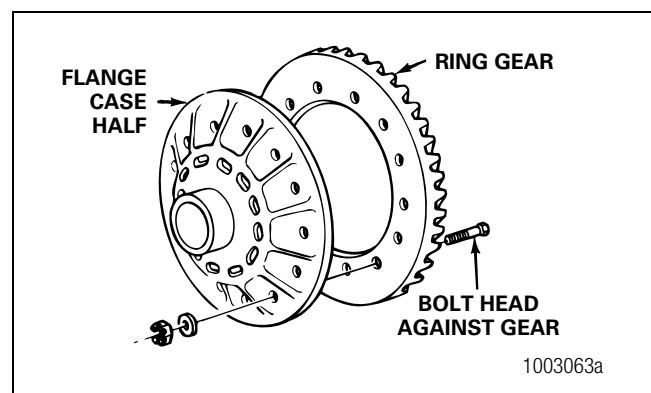

Figure 5.38
5. Install the bolts, nuts and washers that hold the ring gear to the flange case half. Install the bolts from the gear side of the assembly. The bolt heads must be against the ring gear. Figure 5.38.